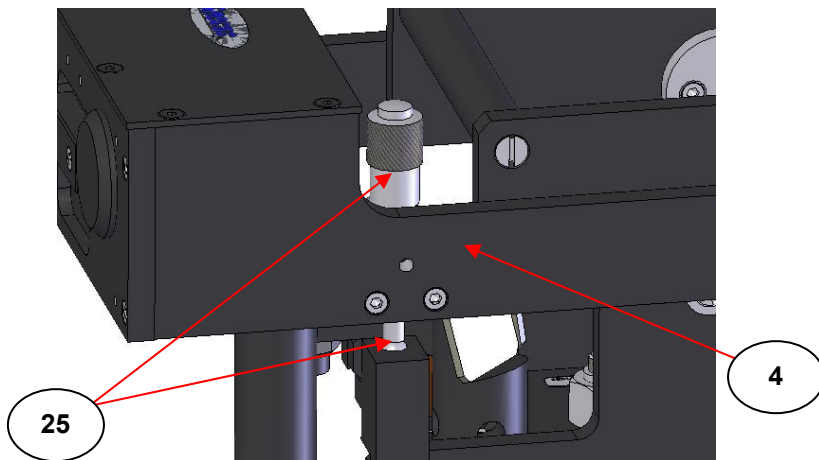

Fig 13. Micrometer Screw for Ellipsoid Mirrors Focus Point
After adjustment of the final output mirror (10) and the output ellipsoid mirror E2 (8), it may be possible to peak up the throughput energy to a maximum value by adjusting the height of the ellipsoid mirrors (7 and 8) for their focal point from the sample surface in a sample cup (19). (See Fig 13.)